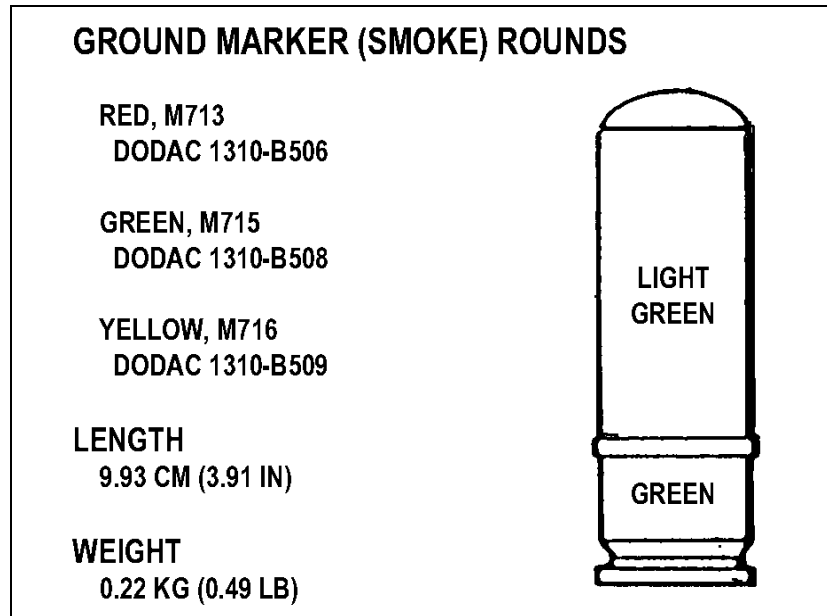

Figure 3-14. Ground marker round (smoke).
(5) *Ground Marker Round.* This round is light green impact aluminum with black markings (Figure 3-14). It is used for aerial identification and for marking the location of soldiers on the ground. It arms between 15 and 45 meters. If a fuze fails to function on impact, the output mixture provided in the front end of the delay casing backs up the impact feature. The color of the ogive indicates the color of the smoke.